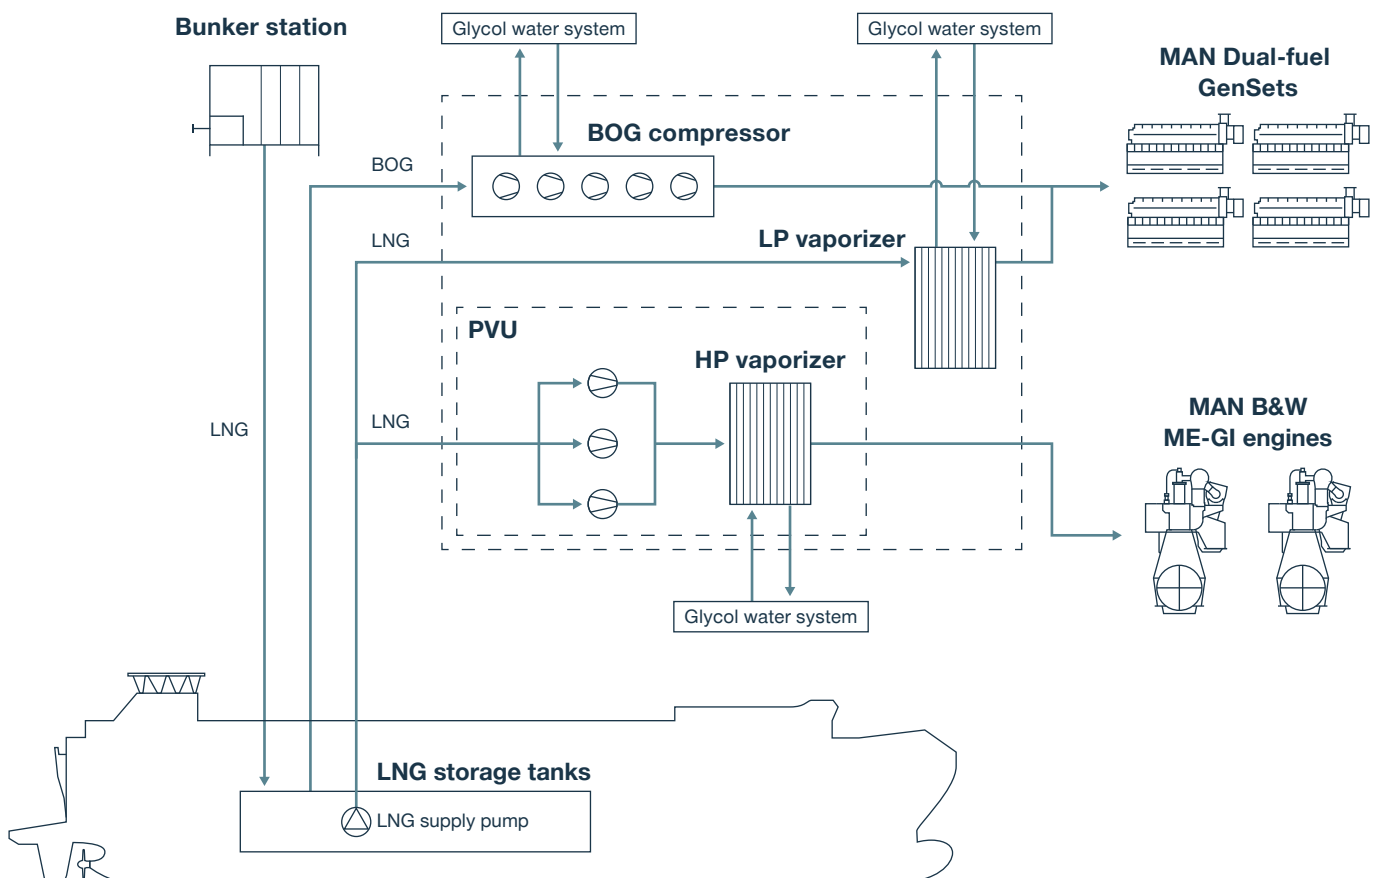

Fig. 6
The MAN PVU supplies LNG at the pressure and temperature required by the MAN B&W ME-GI engine. The PVU receives LNG from a cryogenic centrifugal pump, and subsequently the high-pressure (HP) reciprocating pump pressurizes the LNG. The HP pump shown in Fig. 6 has three cylinders actuated by linear hydraulic pistons. The pressurized LNG flows through a compact printed circuit heat exchanger in which it is heated by warm glycol water. An HP filter catches fine particles present in the gas before the gas is directed toward the GVT and the engines.